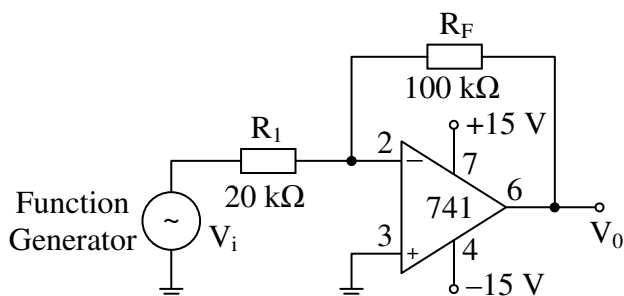

Fig. 9.3 Inverting amplifier: experimental circuit
1. Construct the circuit of Fig. 9.3. Measure and record resistor values: